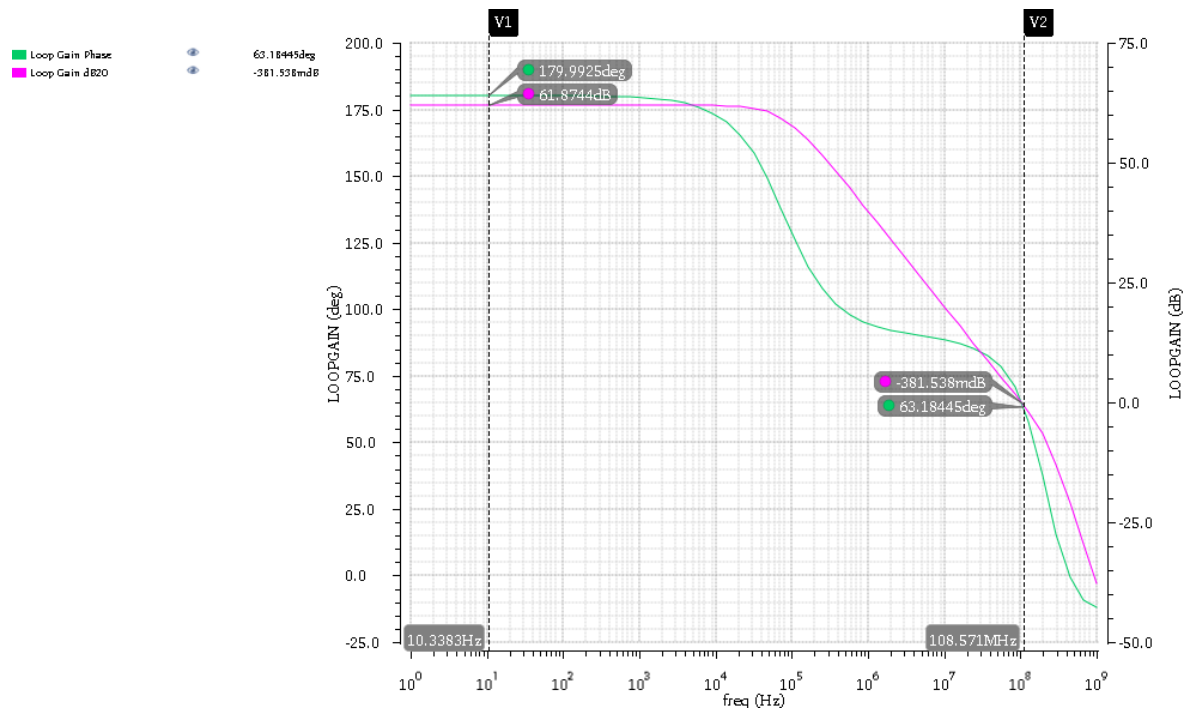

Fig. 1 An example AC simulation plot
3. Run a stb analysis from 10 Hz to 1 GHz to get the ac response of the opamp. Create an AC simulation plot like Fig. 1 below. From the ac plot, report the DC gain ( $A_0$ ), -3dB bandwidth ( $\omega_{-3\text{dB}}$ ), and the unity gain bandwidth ( $\omega_u$ ). Calculate the gain bandwidth product ( $A_0 \times \omega_{-3\text{dB}}$ ) and compare it with the unity gain bandwidth ( $\omega_u$ ). Explain if there is any difference. (5 points)